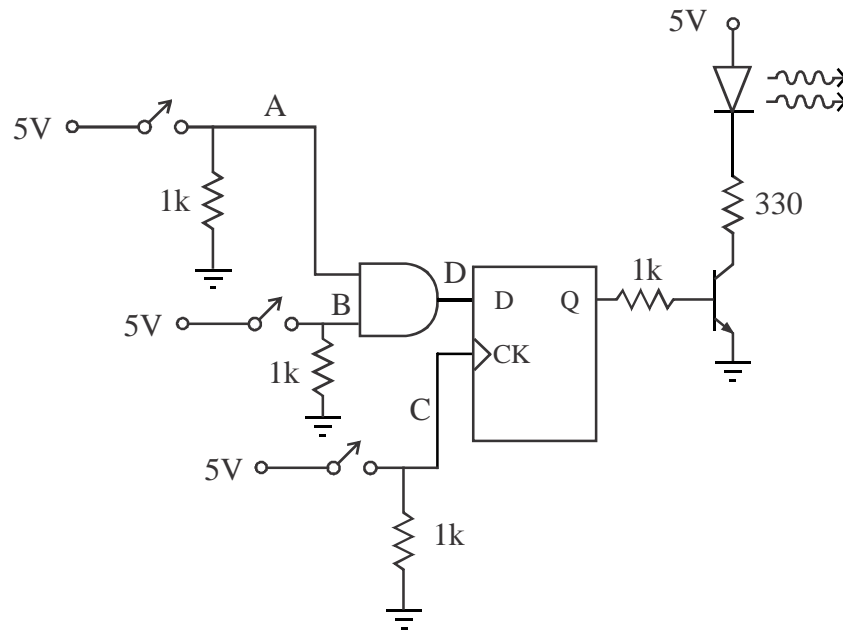
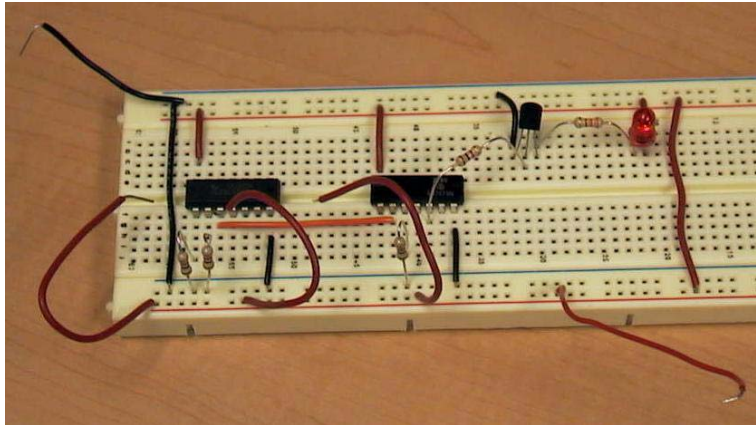
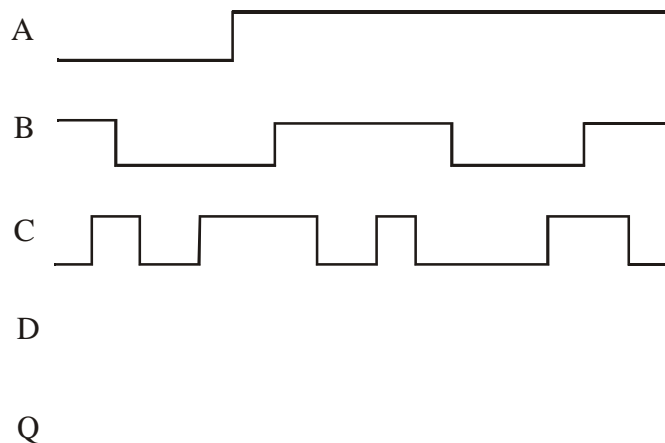

Figure 7.8 Circuit Schematic with Switches, Logic Gate, and Flip-flop
Figure 7.9 Photograph of the Partially-Completed Circuit
Figure 7.10 Positive-Edge-Triggered Circuit Timing Diagram
- (1) Using the datasheet pin-out diagrams (Figures 7.5 through 7.7), draw a complete and detailed wiring diagram (showing all connections and all pin numbers) for the circuit schematic shown in Figure 7.8, using a 7474 positive edge-triggered flip-flop. Carefully **label and number all pins that are used on each IC, including power and ground**. You might find Figure 7.9 helpful as a reference because it shows a photograph of a partially-completed circuit.
**Note - It is good practice to include a 0.1  $\mu\text{F}$  capacitor across the power and ground pins of each IC (not shown in Figure 7.8 or Figure 7.9).** This helps filter out transients that could occur on the power and ground lines during switching. The capacitors are especially important in more complicated circuits where a single power supply may be providing reference voltages and switched current to numerous components.
- (2) Using the detailed wiring diagram you created in Step 1, construct the circuit. Again, Figure 7.9 can be helpful as a reference because it shows the partially completed circuit; although, your main reference should be the wiring diagram you created in Step 1.
For the positive-edge-triggered circuit (Figure 7.8), assuming bounce occurs during every release of button  $C$ , draw a timing diagram showing how the output ( $Q$ ) would respond for the  $A$ ,  $B$ , and  $C$  traces shown in Figure 7.10.